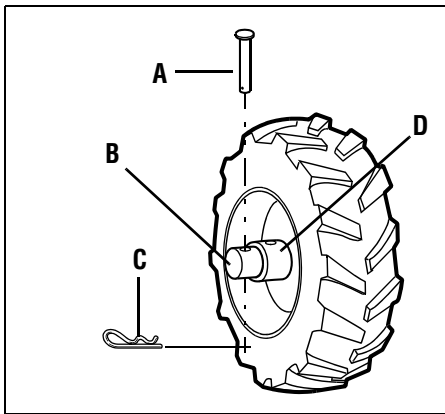

Figure 3-3: FREEWHEEL position.
5. FOR FREEWHEEL MODE (Figure 3-3): Slide the wheel inward and insert the wheel drive pin (A, Figure 3-3) only through the hole in the wheel shaft (B). Secure wheel drive pin with hairpin cotter (C) by pushing hairpin cotter in as far as it will go. Repeat for the other wheel and then remove the support from beneath the transmission.